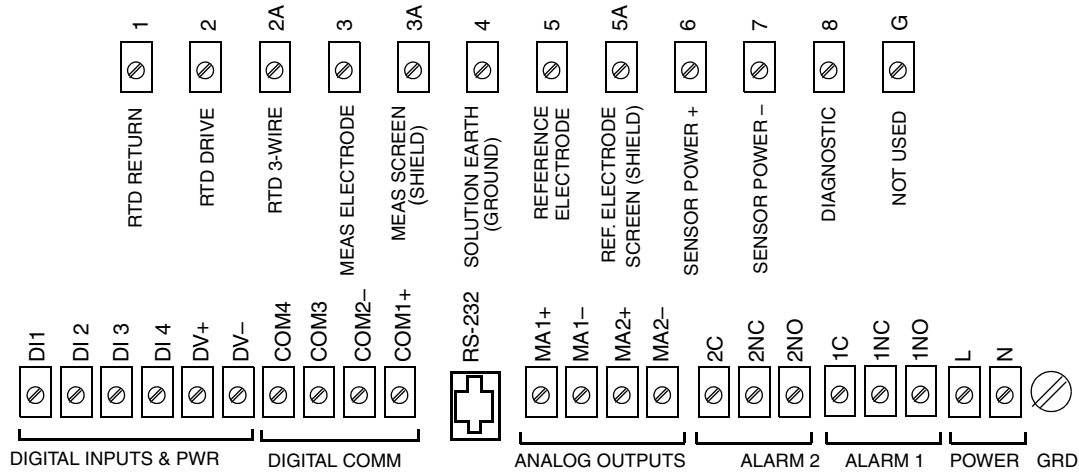

Figure 7. Wiring Connections for 875PH Analyzer
If you have a panel-mounted analyzer, make your wiring connections directly to the terminals on the rear of the housing. Terminal identifications are shown in Figure 7 and described in Table 4.
3. Bring the wires from your input (ac) power in the right opening and connect to terminals at the right end of the bottom terminal strip as shown in Figure 7 and described in Table 4.
4. Bring all other wiring (except sensor cable) in the middle opening and connect to appropriate terminals on the bottom terminal strip as shown in Figure 7 and described in Table 4.
5. Bring the sensor cable in the left opening and connect to the appropriate terminals on the top terminal strip as shown in Figure 7 and described in Table 4. If you are using manual temperature compensation and are **not** wiring a temperature measuring device, short terminals 1, 2, and 2A to minimize noise.
The ground connection on panel mounted analyzers is located as shown in Figure 7. The connection on field mounted analyzers is on a case boss just below the power connections.
If HART Communication (Option -C) is installed, connect your HART loop to the COM1(+) and COM2(-) terminals of the analyzer. See Figure 7. There must be a minimum 250 ohm load in the loop. Therefore, if you are configuring the analyzer on the bench (no loop load) with a HART communicator, you must add a 250  $\Omega$  resistor.
There are two analog (4 to 20 mA) outputs in the analyzer. Connect the Analog 1 output at the MA1+ and MA1- terminals of the analyzer. Connect the Analog 2 output at the MA2+ and MA2- terminals of the analyzer. See Figure 7. Analog 2 is **not** used when HART I/O communication is employed.